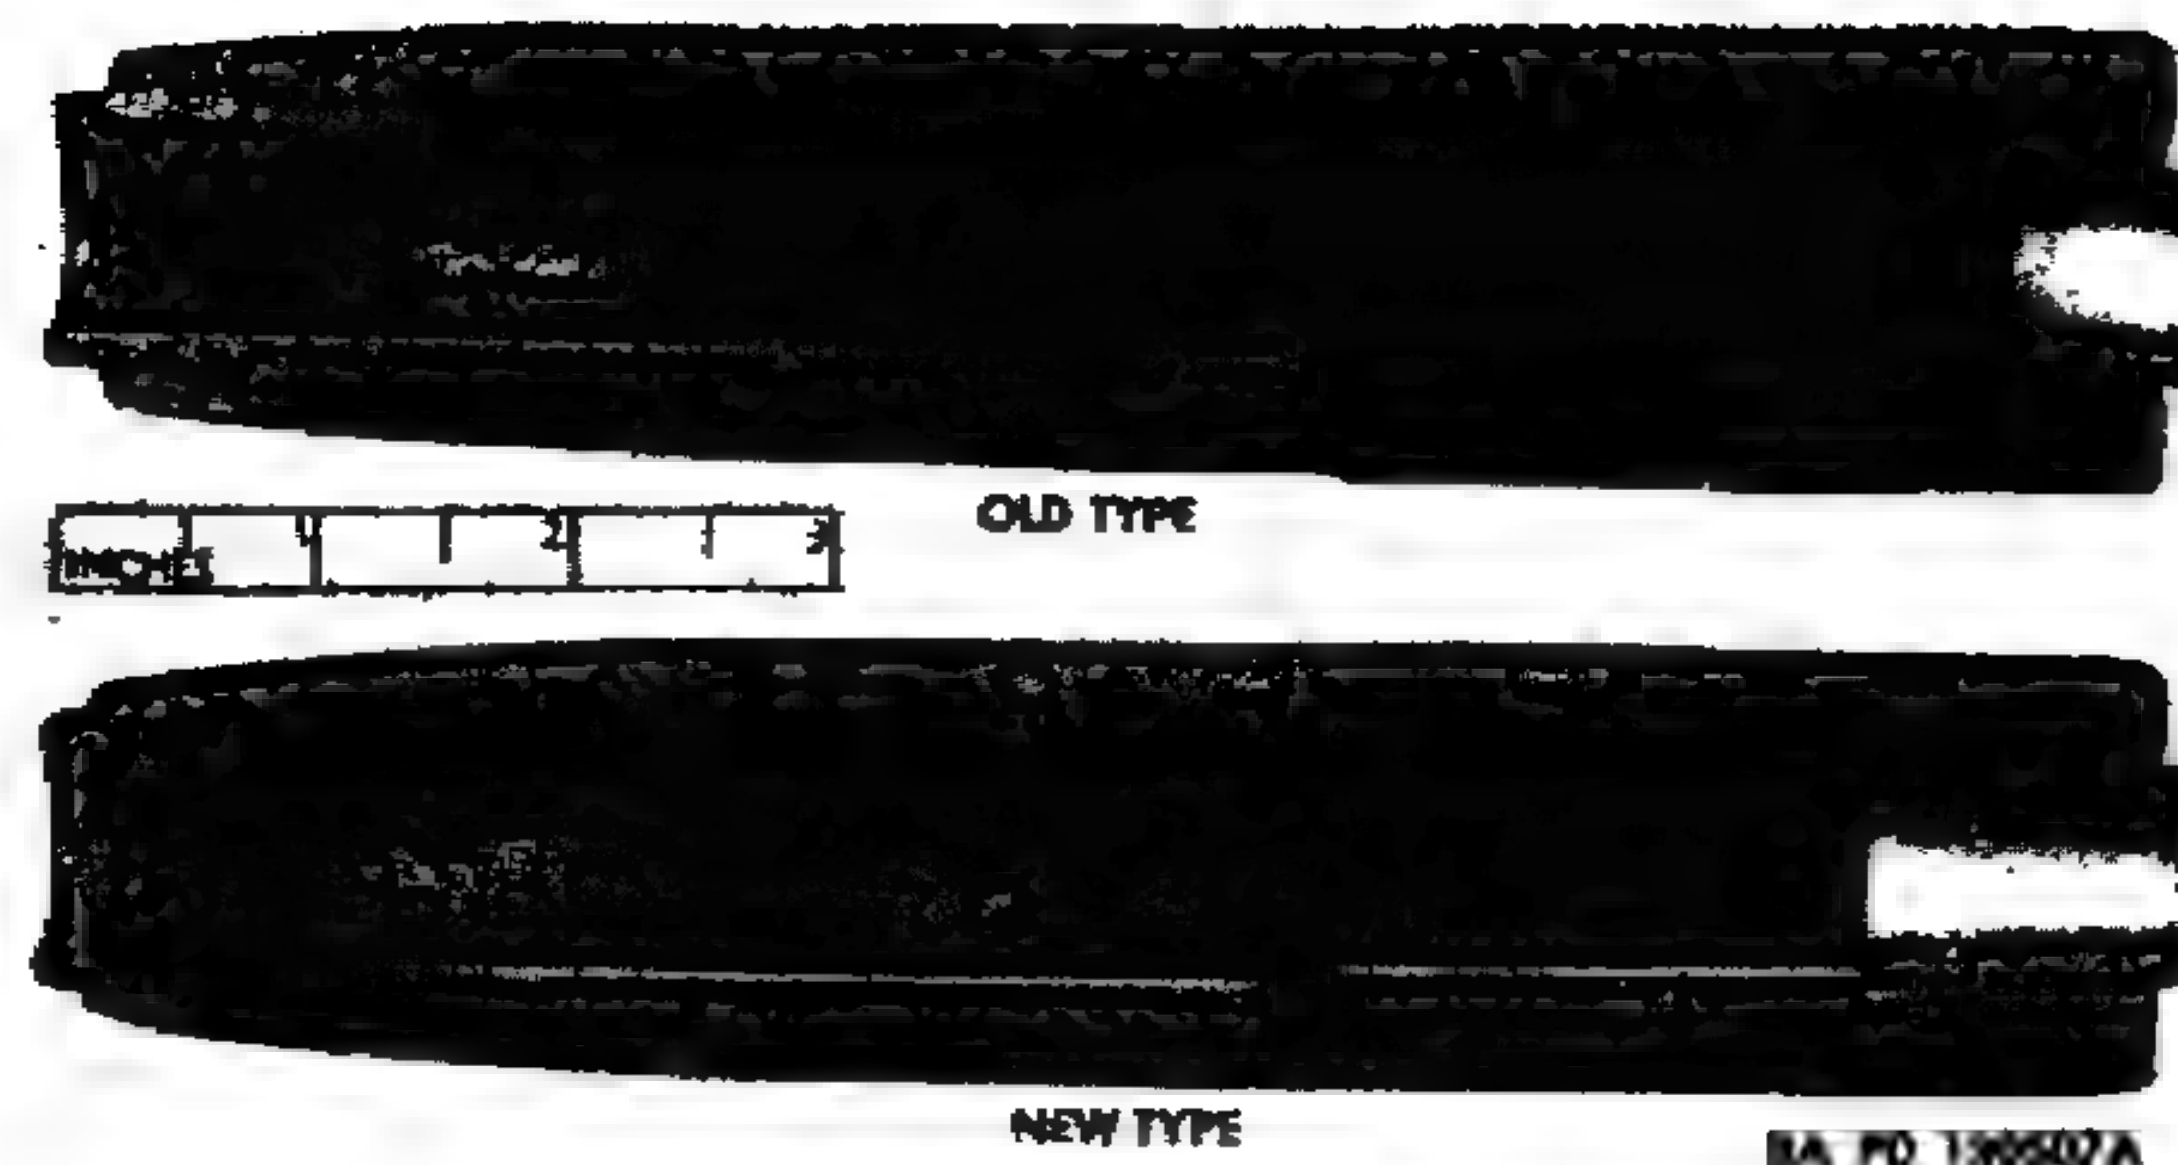

Figure 100. Hand guard assembly 6212602.
h. Hand Guard Liner. Check to assure that liner in hand guard assembly is not distorted and is securely fastened to hand guard. Liners with two rivets or with four rivets, if serviceable, may be used on carbines M1 and M1A1. Only the four-rivet type hand guard assembly 6212602 is to be used on the carbines M2 and M3 (fig. 100).